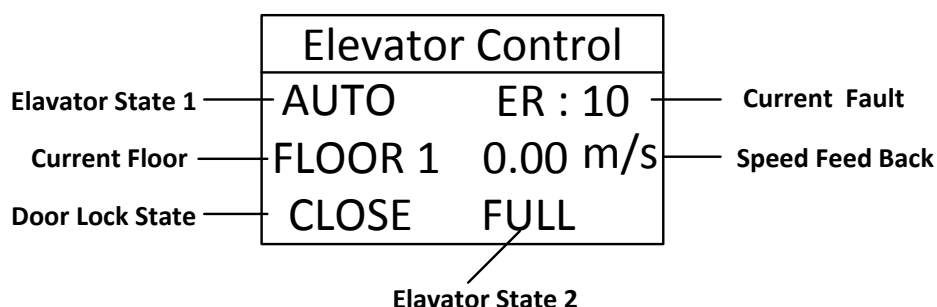

FIGURE 7.1 DIGITAL OPERATOR LCD SCREEN INTERFACE
- c. **(Note: Connect digital operator before power on)** After power on, first see if the main menu display is correct on LCD indicator. For example: elevator state, fault state, door lock state, current floor, running speed and else. In this way we can tell if the controller is working properly and whether 24V power supply is normal. Interface on digital operator LCD screen can be seen below in fig. 7.1